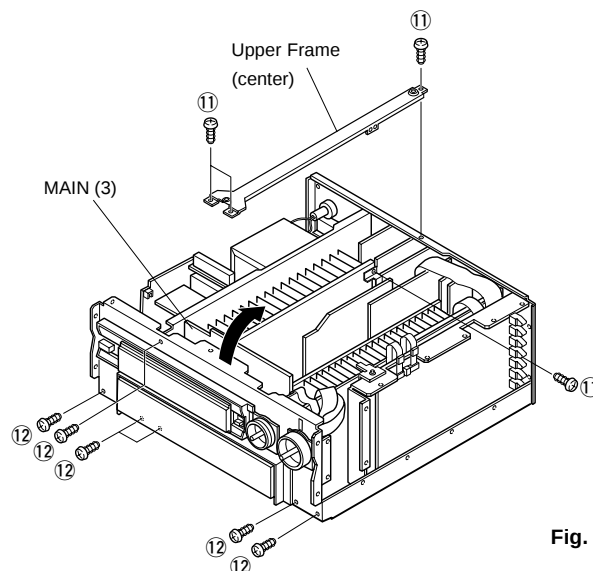

Fig. 4
6. Removal of Main P.C.B. (3)
- a. Remove 4 screws (⑪) and remove the center Upper Frame in Fig. 4.
- b. Remove 6 screws (⑫) and then take up the Sub Chassis in Fig. 4.